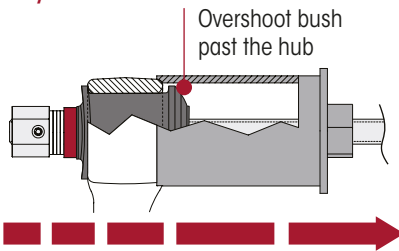
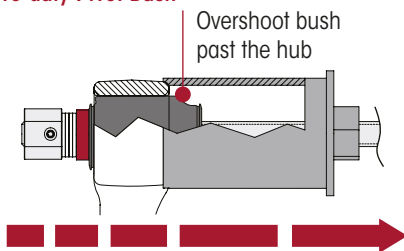

Figure 94: Heavy-duty Bush Tool Configuration AFTER overshoot
Figure 95: Severe-duty Bush Tool Configuration AFTER overshoot
5. Using a $\frac{3}{4}$ " impact wrench, rotate the drive screw in a continuous motion without stopping until the pivot bush is seated in the hub and slightly overshoots the opposite end of the hub. It is necessary to overshoot the desired final position. Refer Figure 94 and Figure 95.